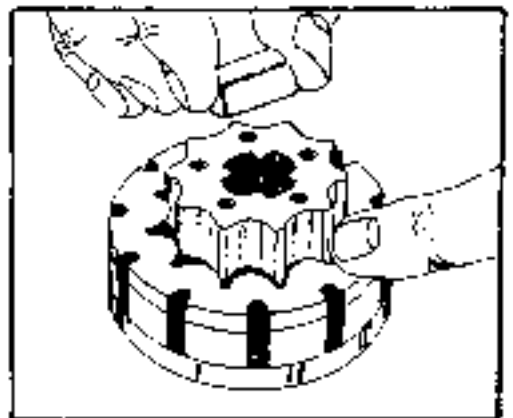

FIGURE 28.
remove & inspect drive link spacer 33. Remove drive link spacer (23). See figure 28. Replace it, if it is grooved or worn.